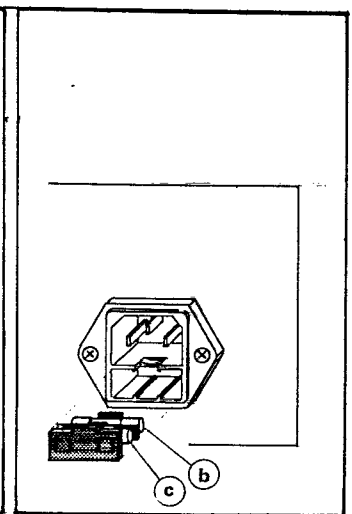

Fig. 7.2
- Replace the blown fuse **b** by the new fuse **c** (check rating) —refer to Fig. 7.2.